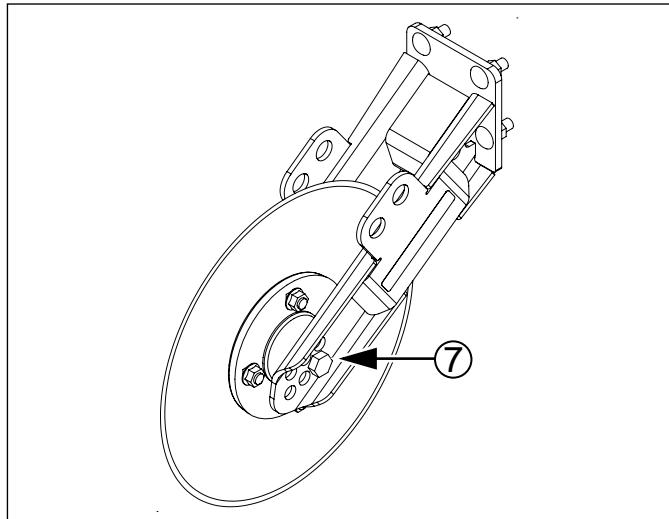
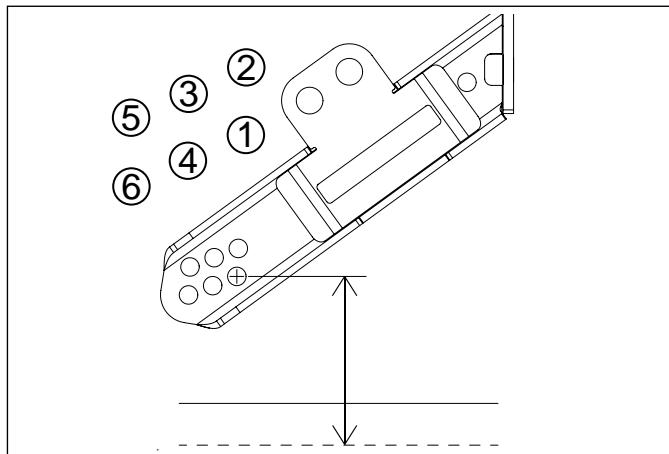

Figure 47
Figure 48
Refer to Figure 47 and Figure 48
4. Remove the $\frac{5}{8}$ -11 x 4 inch bolt, lock washer and nut (7 in Figure 47).